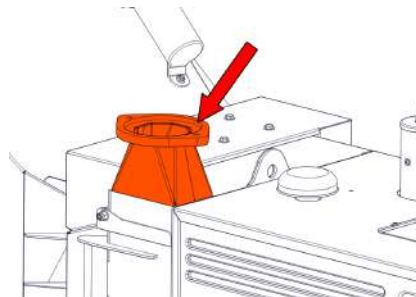

Figure 33 - Discharge flange - tube removed
3. Remove all traces of old grease and dirt from the discharge tube flange and the mounting flange (Figure 33).